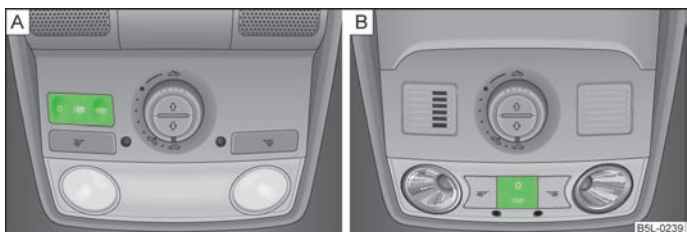

Fig. 30 Interior lights at the front
- › Press the switch in the area of the symbol  » Fig. 30.
- › Place the switch into the middle position. On vehicles without an interior monitor, the middle position is marked with the symbol  » Fig. 30 - A.